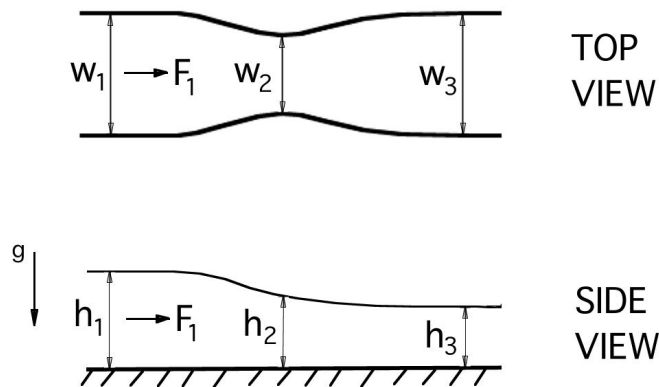

Figure P10.21
10.21 Water flows steadily and smoothly through an open-channel flow of varying width, as shown in Figure P10.21. The Froude number at the upstream station is subcritical and equal to F_1 , and the width and depth at this station are w_1 and h_1 , respectively. At the point of minimum channel width (the “throat”), the Froude number $F_2 = 1$, and the width and depth are w_2 and h_2 . Downstream of the throat the channel expands to a constant width, and at this point the Froude number is F_3 and the width and depth of the flow are w_3 and h_3 . Note that $h_2/h_1 = 3/4$, and $w_3 = w_1$. State all your assumptions.